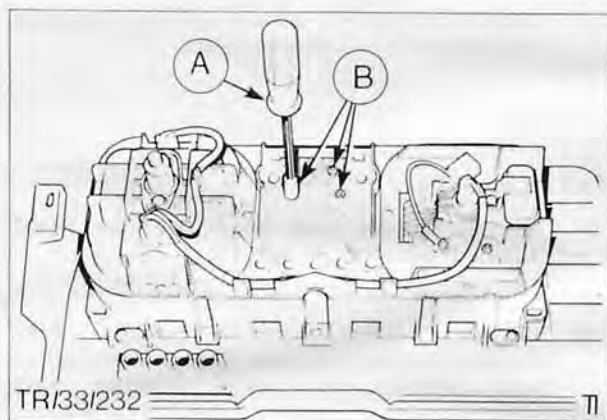

Fig. 73 Removing clock retaining nuts
6. Remove three nuts and washers from clock retaining stubs, Fig. 73. Remove clock from plate.